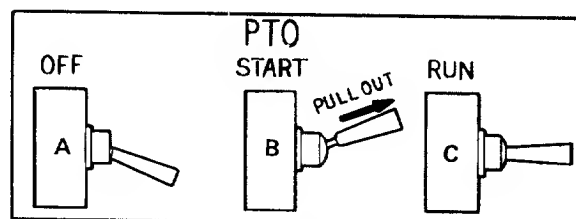

Figure 19
2. Flip the toggle switch to the "RUN" position. (See Figure 19.)
5. PTO switch must be in the "OFF" (A) position when shifting the tractor into reverse or the PTO will shut off automatically. To reengage the PTO, shift unit into neutral. Move PTO switch to "OFF" (A) position. Then pull knob out and lift up to "START" (B) position and release.